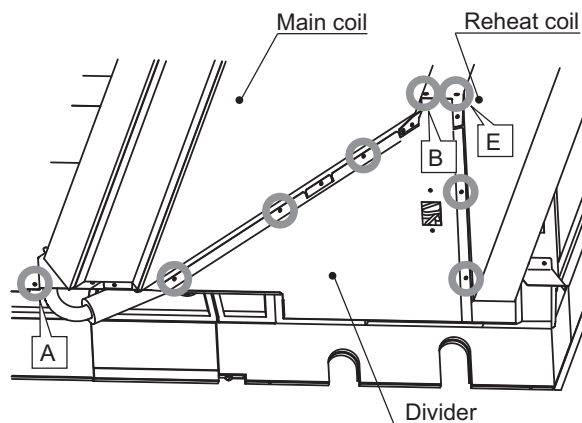

Fig.16
4. To remove the heat exchanger (Fig.16, 17, 18)